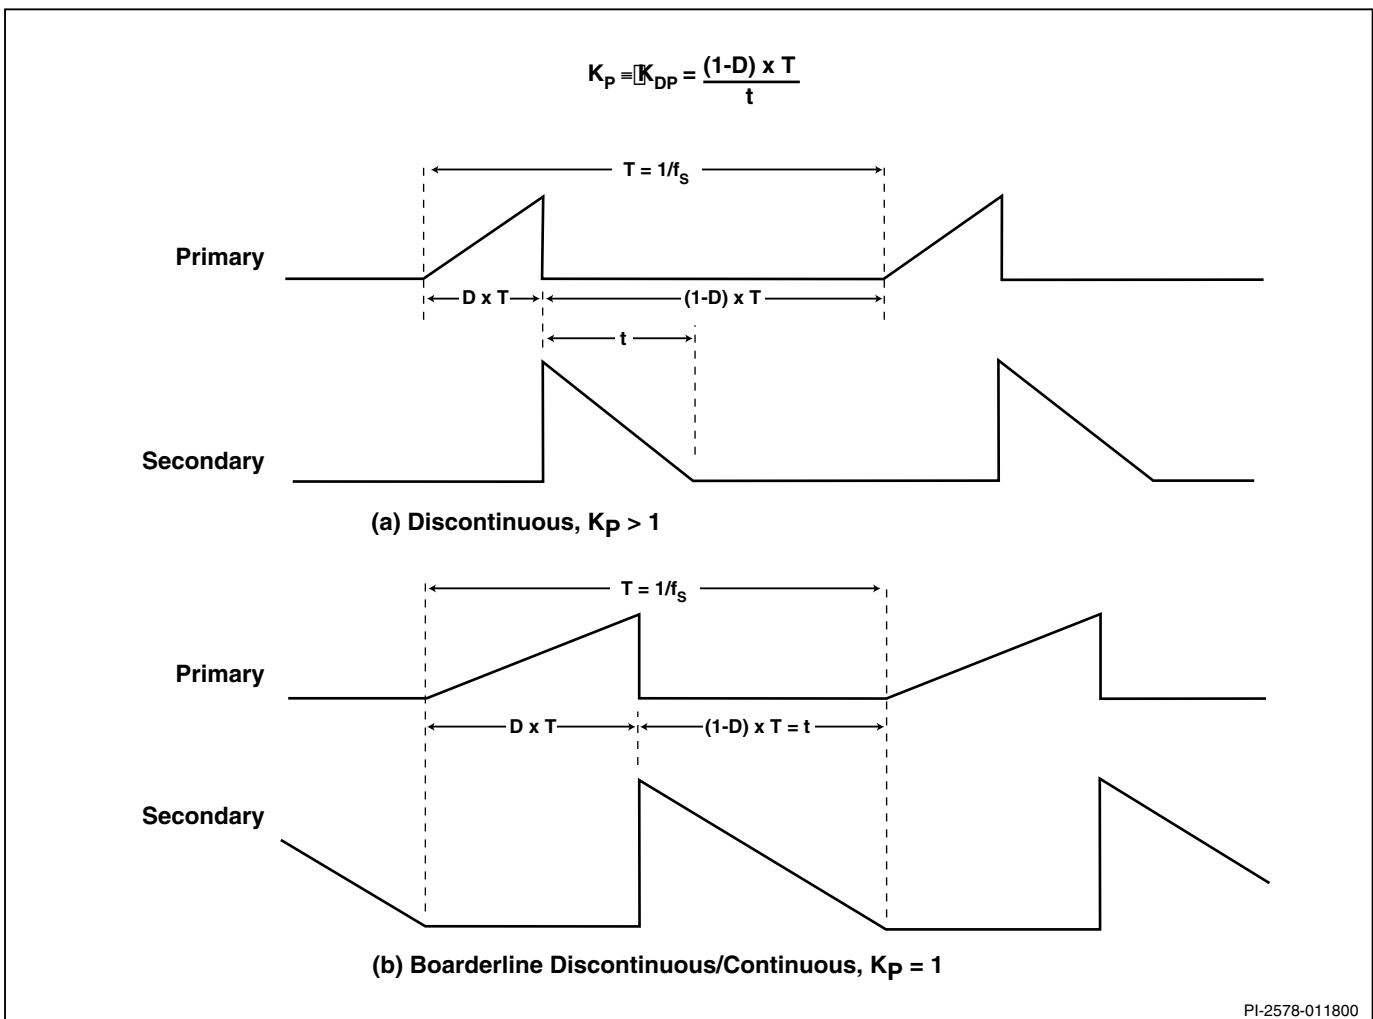

Figure 10. Discontinuous Mode Current Waveform, $K_p \geq 1$.
- For $K_p \geq 1.0$, $K_p \equiv K_{DP}$, discontinuous mode (see Figure 10)